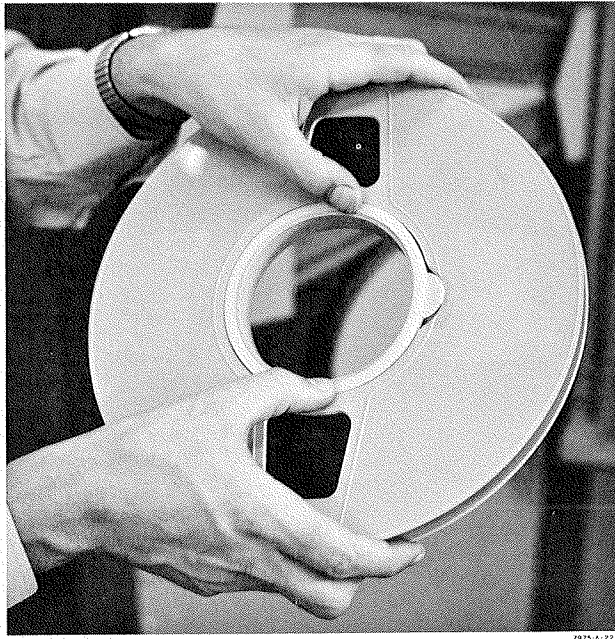

Figure 3-3. Installing the Write Enable Ring
b. If tape transport is to operate in the write mode, verify that a plastic write enable ring is in groove on file reel (figure 3-3).